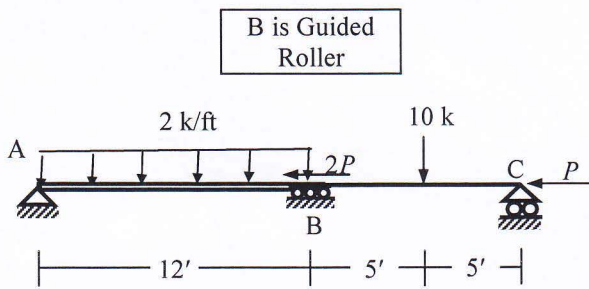

Fig. 7
7. Use Stiffness Method to calculate the unknown joint deflections and rotations of the beam ABC loaded as shown in Fig. 7, considering flexural deformations only with geometric nonlinearity [Given: $P = 100$ k, $EI_{AB} = 2EI_{BC} = 40 \times 10^3$ k-ft²].